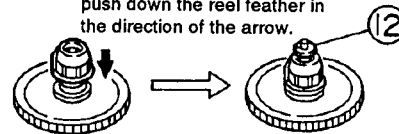

Fig. 4-16
■ **Reel disk ass'y** (See Fig. 4-16)